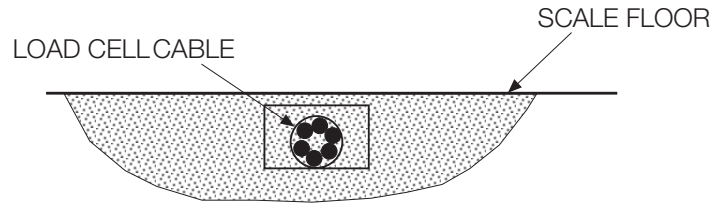

Figure 3-3. Load Cell Protection
7. The cable must be routed to the indicator in a manner that will protect the cable from damage. This method of cable protection in non-washdown applications are shown in Figure 3-3. When planning cable routing, leave a loose coil of excess cable under the scale to facilitate future lifting of the scale for